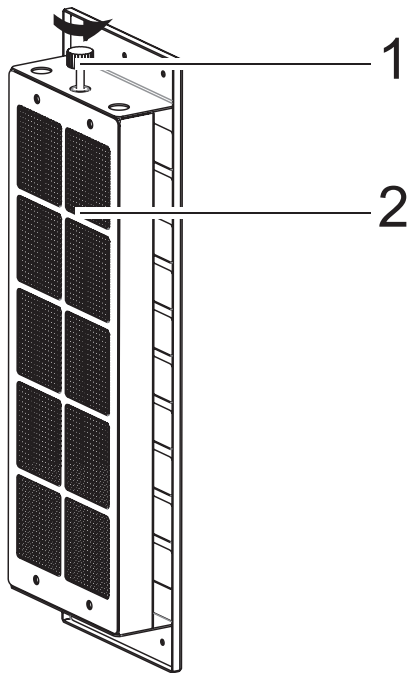

Fig. 8
2. → Remove the connection screw of the active carbon filter ( Fig. 8/1) by turning in the direction of the arrow.